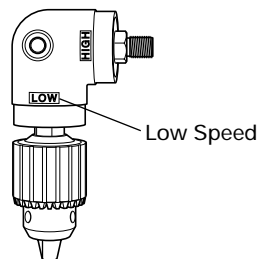

Fig. 10
- To operate the angle unit at low speed, attach the chuck to the angle unit spindle at the side marked "LOW" and secure the locking screw. At this setting, the drilling speed is decreased to about 70% and the drilling torque increased to about 150%. (Fig. 10)